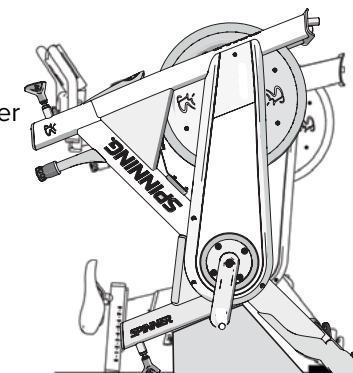

Figure 4
2. Attach the front stabilizer to the frame using two bolts 1 and two washers 2 (Figure 4).
3. Using a hex key 11, tighten the bolts to 15.6 ft-lb (21.2 N-m).